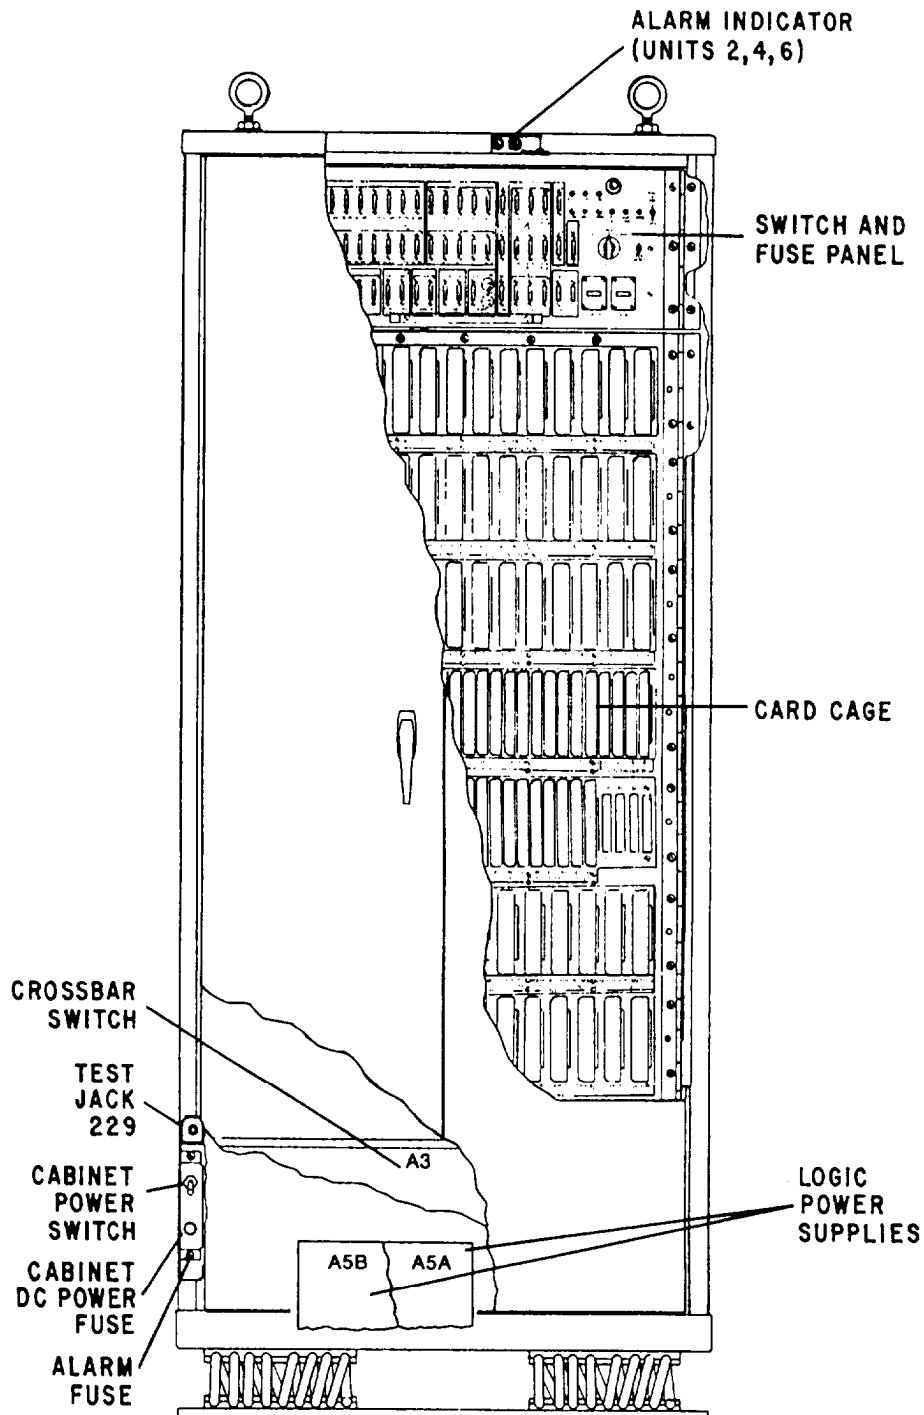

Figure 6-49.—Dial telephone central office section, cutaway.
The central office switchboard's (fig. 6-49) primary job is to (1) interpret the dial pulse information from the calling telephone, (2) determine the called telephone, (3) choose a suitable path to interconnect the two telephones, and (4) connect the two telephones and ring the called party. Its secondary task is to notify a station, in an off-hook condition, to hang up the handset.